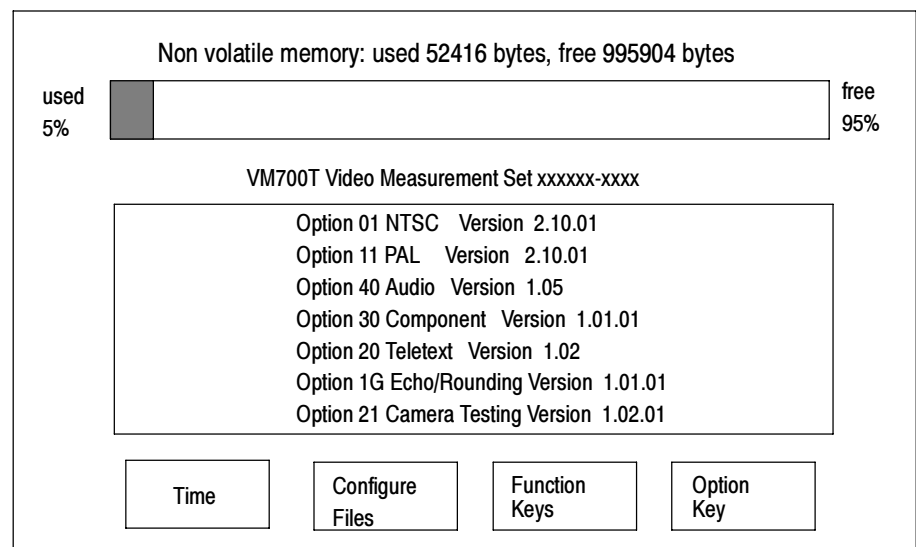

Figure 19: Typical main configure menu
2. Press the Configure front panel button to display the menu as shown in Figure 19. A list of the currently activated options is displayed.